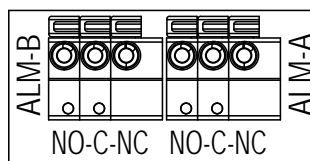

Figure 7. Alarm Connection Detail
9.5 Form C Relay Contact Outputs. The center of the back panel has connections to the Form C relay contact outputs for connection to external audible or visual alarm circuits. See Figure 7 below.